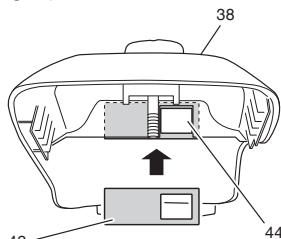

Fig. 38
Icing protection system (Fig. 38, 39)
1. When you need icing system work, remove air filter cover (38). Pull out the shutter (43) from inside the air filter cover and reinstall it in winter time position by turning half-way. (Fig. 38) This will allow heated air to flow from cylinder side to carburetor cabin through the opening (44).